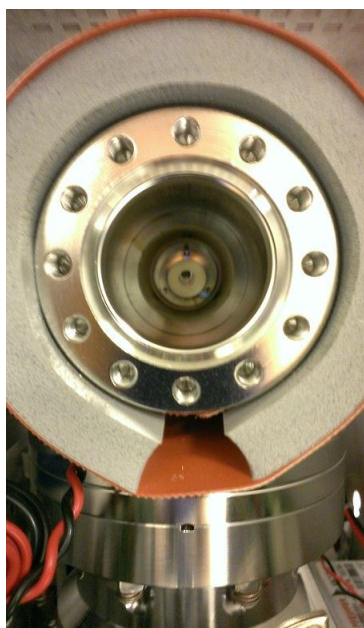

Fig 21
24. Look into the vacuum chamber and note the position of the ceramic inlet assembly, seen in Fig 21. The ceramic inlet assembly is suspended by 3 springs, shown in Fig 22, which allow it to fall from center.